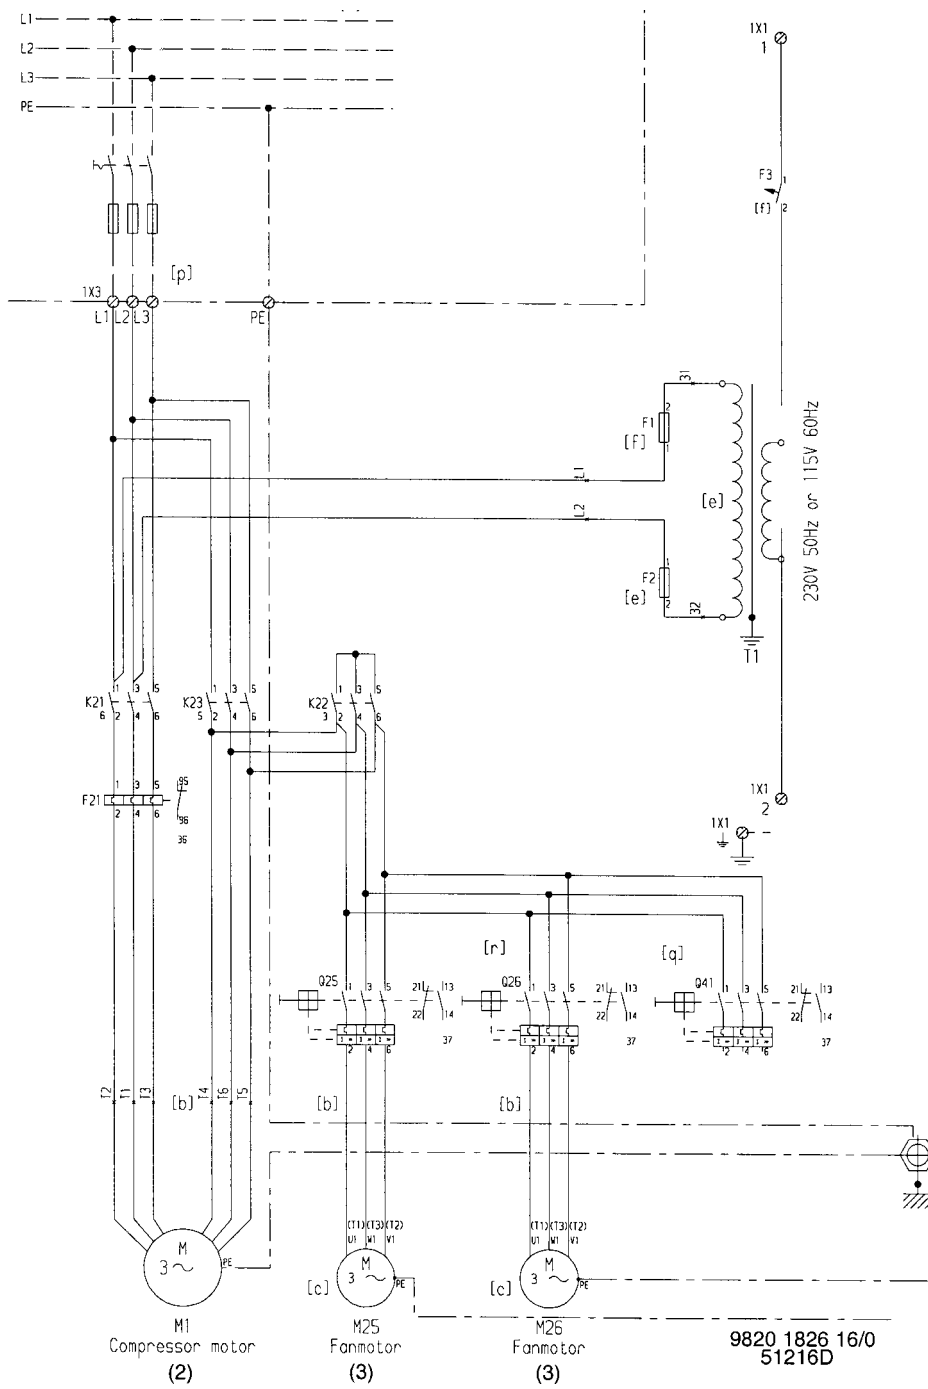

Fig. 2.15 ZT18/30 HAT
10. Switch on the voltage. Start the motor and stop it immediately. **Check for correct direction of rotation** of the compressor motor (9) as indicated by the arrow on the coupling housing. A grating is provided through which the coupling can be observed. **For ZT18/37 and ZT75/90**, check the fan motor (16) for correct direction of rotation, **for ZT18/30 HAT** also check the rotation direction of the extra fan motor of the intercooler. When facing the drive end of the motors, the correct direction of rotation is counter-clockwise. First check the compressor motor. If the rotation direction is wrong, switch off the voltage and reverse two incoming lines. Then check the fan motor(s). If the cooling air from the fan is not blown through the outlet grating on the roof (see Figs. 2.1 up to 2.7), switch off the voltage and reverse two connections at the terminals of circuit breaker (Q25-Figs. 1.13 and 1.14). **On ZT18/30 HAT**, if the cooling air of the intercooler is not blown through the outlet grating in the side panel (see Fig. 2.2), switch off the voltage and reverse two connections at the terminals of circuit breaker (Q26-Fig. 2.15).
11. Run the compressor for a few minutes; check the oil level. Top up, if necessary, to the middle of sight-glass (6).